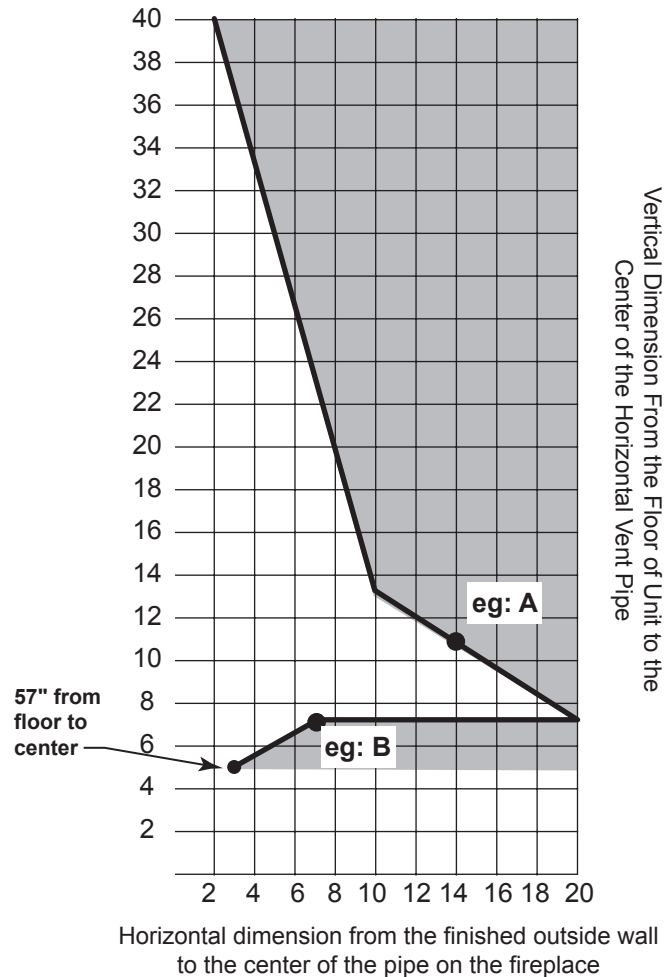

Figure 10 - Rear Wall Venting Graph
1. Determine the height of the center of the horizontal vent pipe exiting through the outer wall. Using this dimension on the Sidewall Vent Graph, *Figure 10*, locate the point intersecting with the slanted graph line.